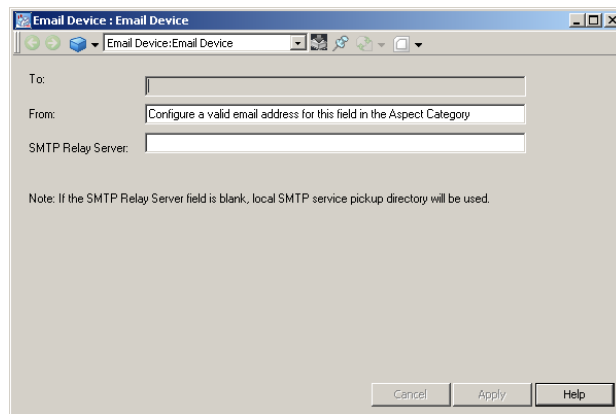

Figure 97. Email Device
3. Right-click **Email Device, Aspect Category** and select **Email Device** from the context menu that appears. This opens the Email Device shown in Figure 97.